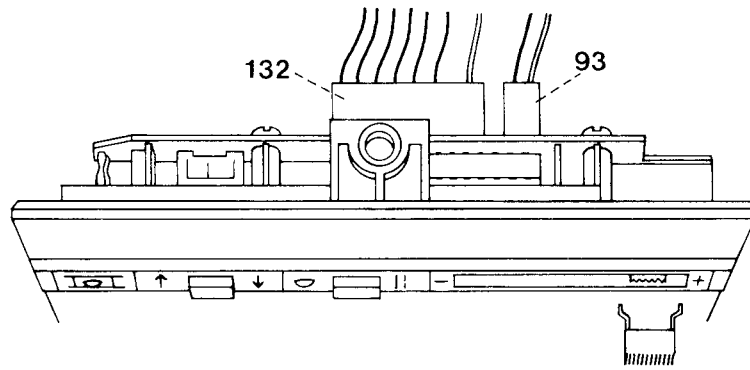

Fig. 40b
- Push the two connections 93 and 132 onto the operating panel circuit board so that the white wires are at the right (Fig. 40b).